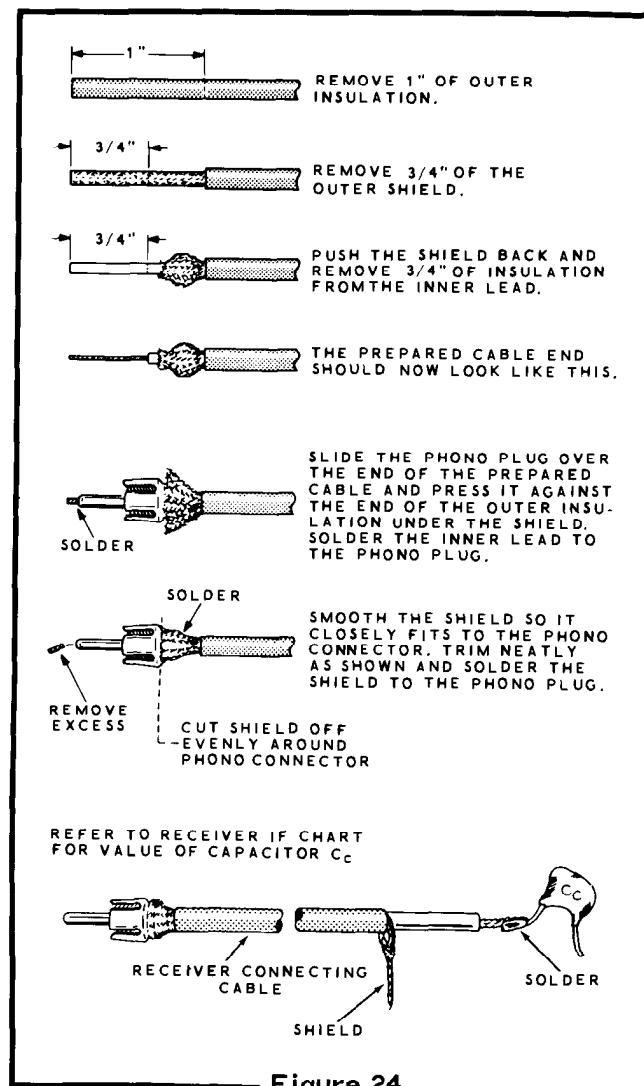

Figure 24
- () Refer to Figure 24 and prepare two coaxial cables, one with capacitor C_c attached to reach from the connecting point to the unused connector in your receiver, and the other to connect between the unused connector and the IF INPUT socket of the Scanalyzer.
- () Prepare a coaxial cable as shown in Figure 24 with capacitor C_c at one end and a phono plug at the other end.